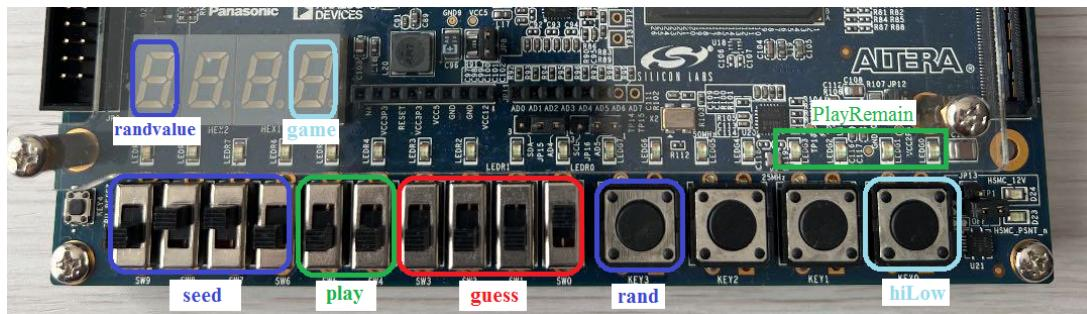

Figure 4.1: The input and output you should use to realize the High/Low Guessing game.
Your goal in this lab is to create a digital version of the guessing game using the development board using the inputs and outputs shown in Figure 4.1. In this case, the FPGA will play the role of secret keeper. You will enter a seed value using the **seed** slide switches. The seed value will be “randomized” into a 4-bit *secret number* using a linear feedback shift generator (more about this later). Pressing the **rand** button reveals the 4-bit *secret number* as a 1-digit hexadecimal value on the **randValue** 7-segment displays. Obviously, the guesser should not press the **rand** button during regular game play.
- 3) The input signals are color-coded to correspond to the colors used in Figure 4.1.